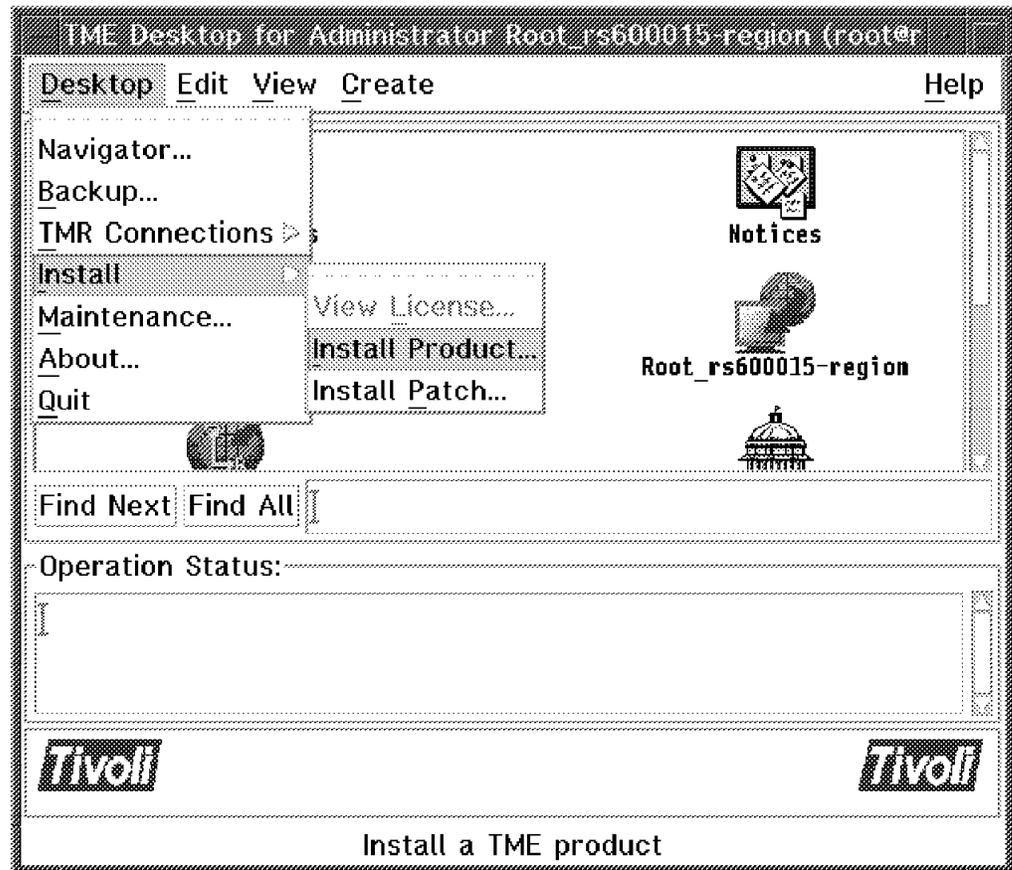

Figure 7. Install Product Dialog
2. Select **Install = = > Install Product** from the pull-down menu. It will display the Install Product dialog as shown in Figure 7 on page 9.